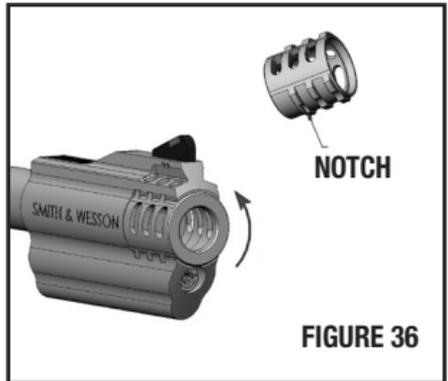

FIGURE 36
2. Rotate the compensator with your fingers either left or right so that the notch is facing down (in the 6 o'clock position) (FIGURE 36).